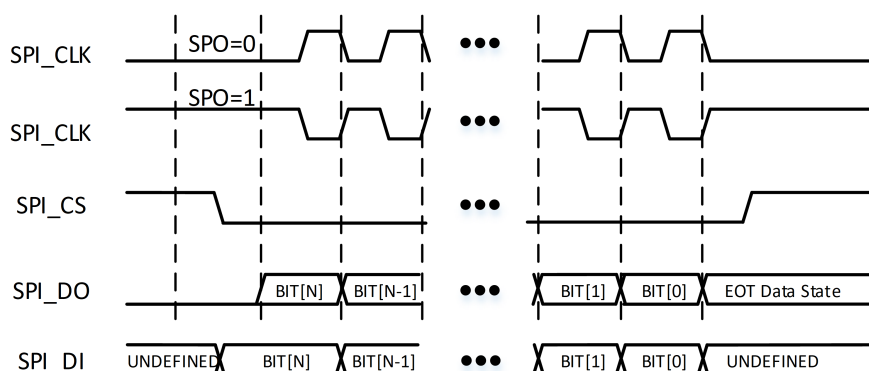

Figure 7-3: SPI communication when SPH is 0
- SPI Format: SPI is a full-duplex synchronous serial communication protocol, divided into four sub-modes based on the SPO and SPH settings in the TOP_CTRL register. SPO configures the polarity of the SPI_CLK clock when the SPI controller is either disabled or in the IDLE state. When SPO is 0, the SPI_CLK polarity is low, and the first edge is a rising edge; When SPO is 1, the SPI_CLK polarity is high, and the first edge is a falling edge. SPH configures the timing of the clock edges for driving and sampling data. When SPH is 0, the SPI controller samples data on SPI_DI at the first edge of SPI_CLK and drives SPI_DO at the second edge of SPI_CLK (by default, SPI_DO outputs the MSB of the data to be transmitted); When SPH is 1, the SPI controller drives SPI_DO from the first edge of SPI_CLK and samples data on SPI_DI from the second edge of SPI_CLK. The specific communication timing is shown in Figures 7-3 and 7-4.
The SPI protocol communication process is described below with reference to Figure 7-3 for the case of SPH=0 and SPO=0 . When the SPI controller is disabled or in the IDLE state after being enabled, SPI_DO is at a low level, SPI_CS is at a high level, and SPI_CLK is at a low level. The SPI_CS signal is pulled low to initiate a data transmission and remains low until the current data frame transmission is complete. After half a SPI_CLK cycle, the data for this transmission of MSB is driven onto the SPI_DO line. After another half SPI_CLK cycle, the SPI_CLK rises to initiate the first rising edge and sample SPI_DI .